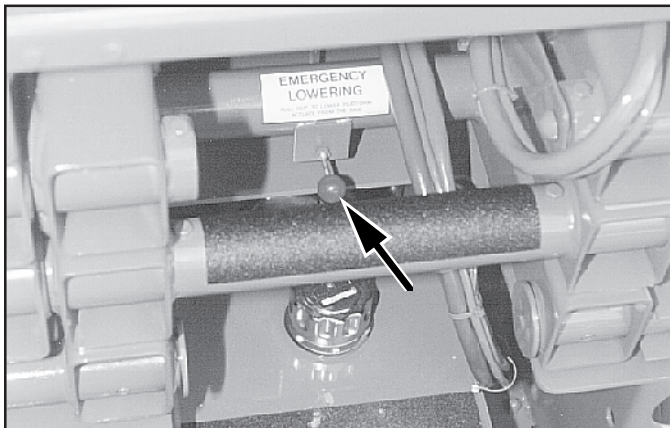

Figure 3: Emergency Lowering Valve Knob
14. Open the Chassis Emergency Lowering Valve (Figure 3) to check for proper operation, by pulling the red knob out. When the platform is lowered, release the red knob.
The Emergency Lowering Valve Knob is located between the scissors at the rear of the machine (Figure 3).